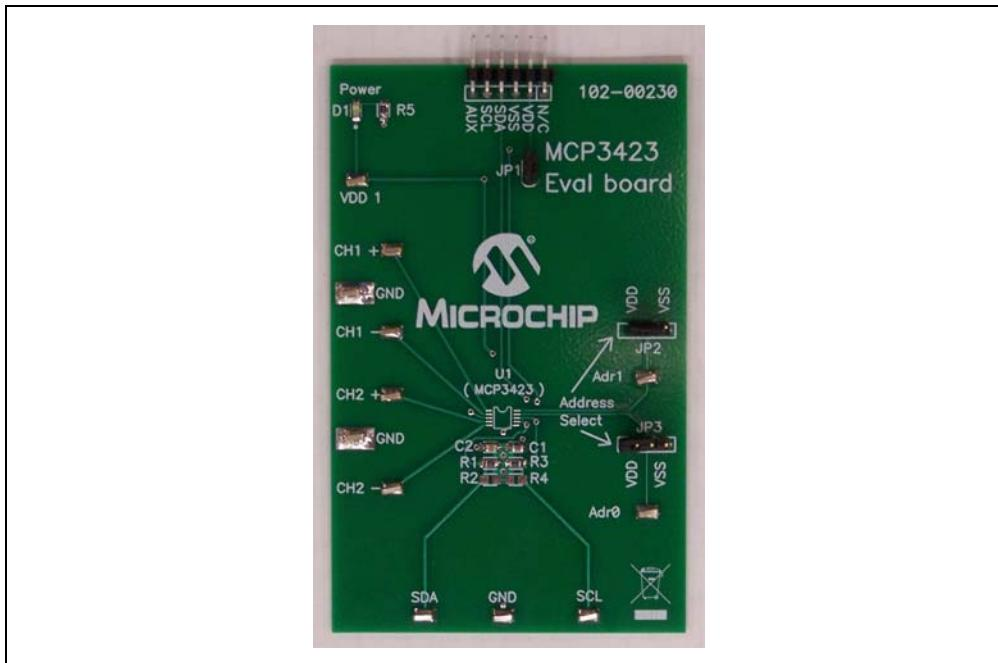
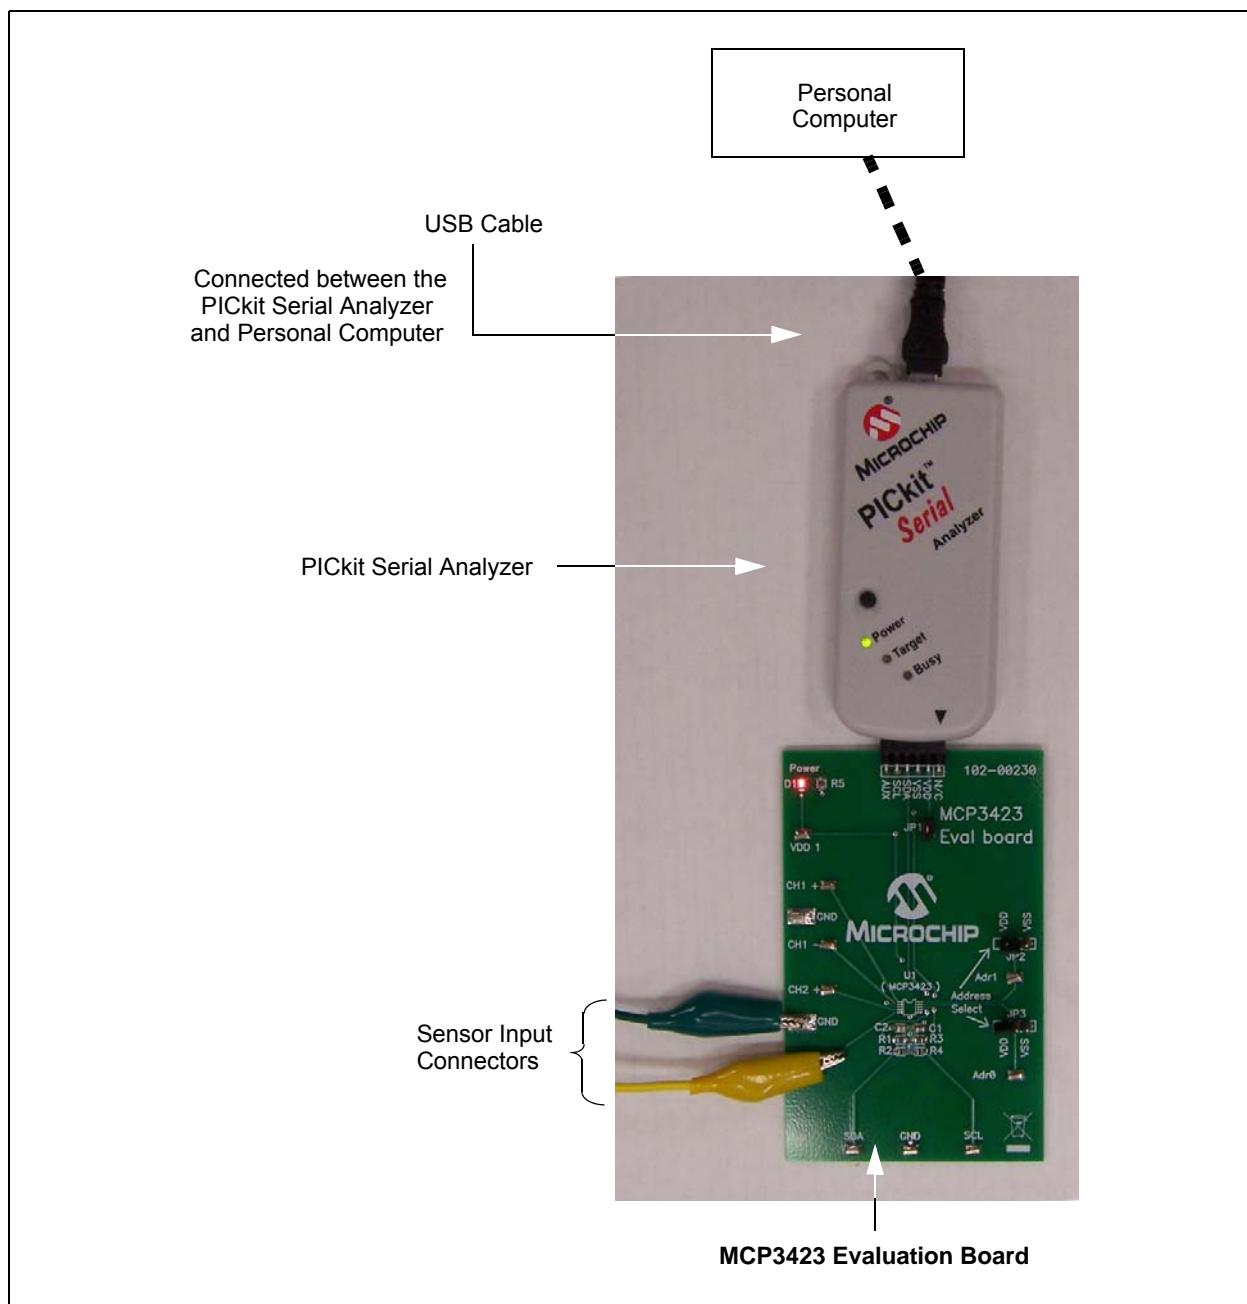

FIGURE 1-1: Front View of the MCP3423 Evaluation Board.
FIGURE 1-2: MCP3423 Evaluation Board with the PICkit Serial Analyzer.
Figure 1-1 shows the MCP3423 Evaluation Board, and Figure 1-2 shows the MCP3423 and PICkit Serial Analyzer.
1. Connect the MCP3423 Evaluation Board's 6-pin socket to the PICkit Serial Analyzer as shown in Figure 1-2.